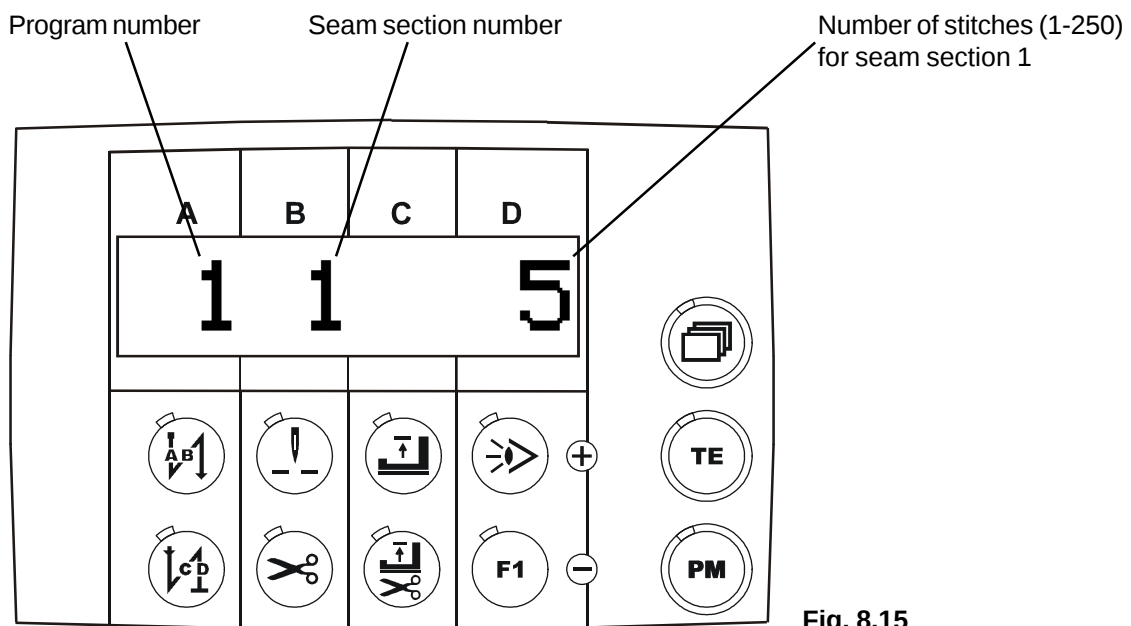

Fig. 8.15
- 9.4 Use the **B+ / B-** keys to set seam section "1" **Fig. 8.15**,